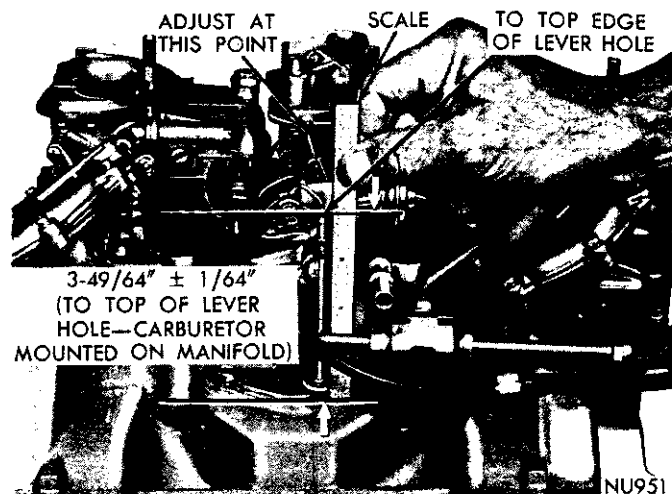

Fig. 25—Qualifying Choke Control Lever
(1) Open the throttle to mid-position.
(2) Close the choke valve by slight pressure on choke control lever.
(3) The top of choke rod hole in control lever should be $3-49/64 \pm 1/64$ inch above choke assembly (carburetor on engine) or $1-23/32 \pm 1/64$ inch above carburetor base (carburetor on bench) (Fig. 25).
(4) Adjust if necessary by bending choke shaft rod at point indicated.